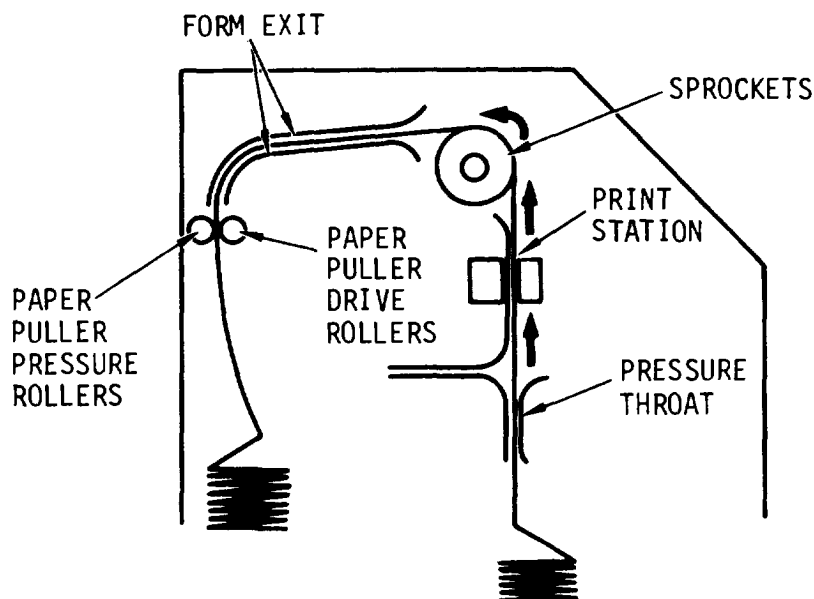

Figure 1-7. Form Movement
c. Form Movement. Form movement (fig. 1-7) consists of a dual pin feed mechanism driven by a phase controlled motor, which is under processor control. The paper forms are advanced at six or eight lines per inch according to the setting of the 6/8 lines switch on the control panel. The paper forms are also advanced in either single or multiple line rates under system control. Single or multipart forms, which are stowed in the front paper compartment, are fed up through the pressure throat, across the print station and over the two pin feed sprocket assemblies which provide the form drive. The forms are then fed through to the form exit located at the rear section of the print mechanism. Paper tension is provided by three pressure rollers, located at the paper throat, and five adjustable paper puller pressure rollers, located at the rear of the printer.